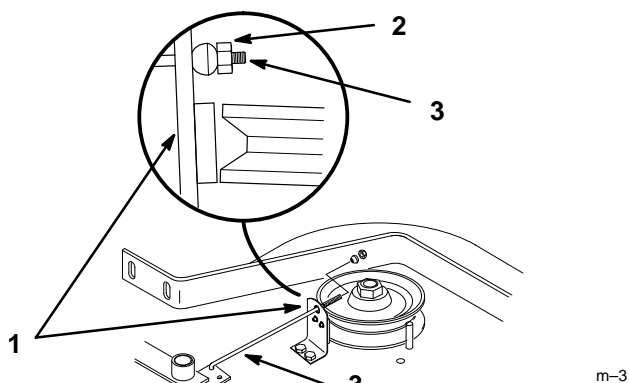

Figure 36
3. Loosen nut at the brake spring so pad rubs against pulley. Then tighten nut until pad just clears the pulley (Fig. 36).
4. Disengage blade control (PTO) lever. Brake rod(s) must be loose (Fig. 36).